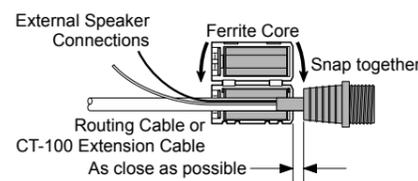

FIGURE 2
- Referring to Figure 2, attach the supplied ferrite core as close as possible to the MIC plug of the Routing Cable and External Speaker Connections, then snap its two halves together. And then, wind some plastic tape around the ferrite core, to prevent vibration from causing the two halves to split apart and fall off the wires.